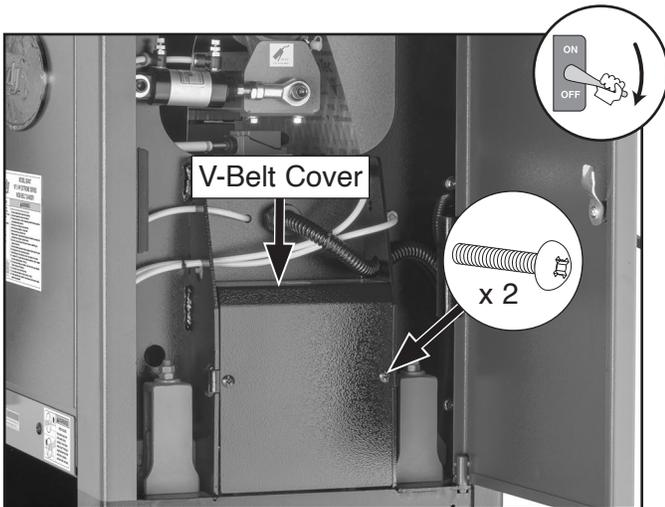

Figure 54. Location V-belt cover and screws.
2. Open right door, then remove (2) Phillips head screws shown in **Figure 54** to remove V-belt cover.